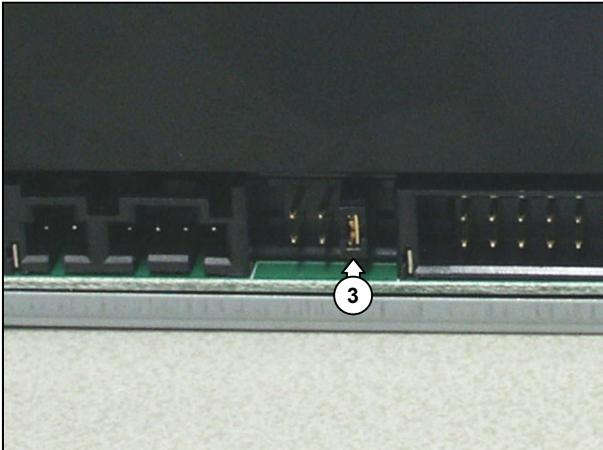

Figure 12.4-3
Note: Before re-assembly make sure that the jumper (3) at the rear of the ODD is set to the Master position. See Figure 12.4-3